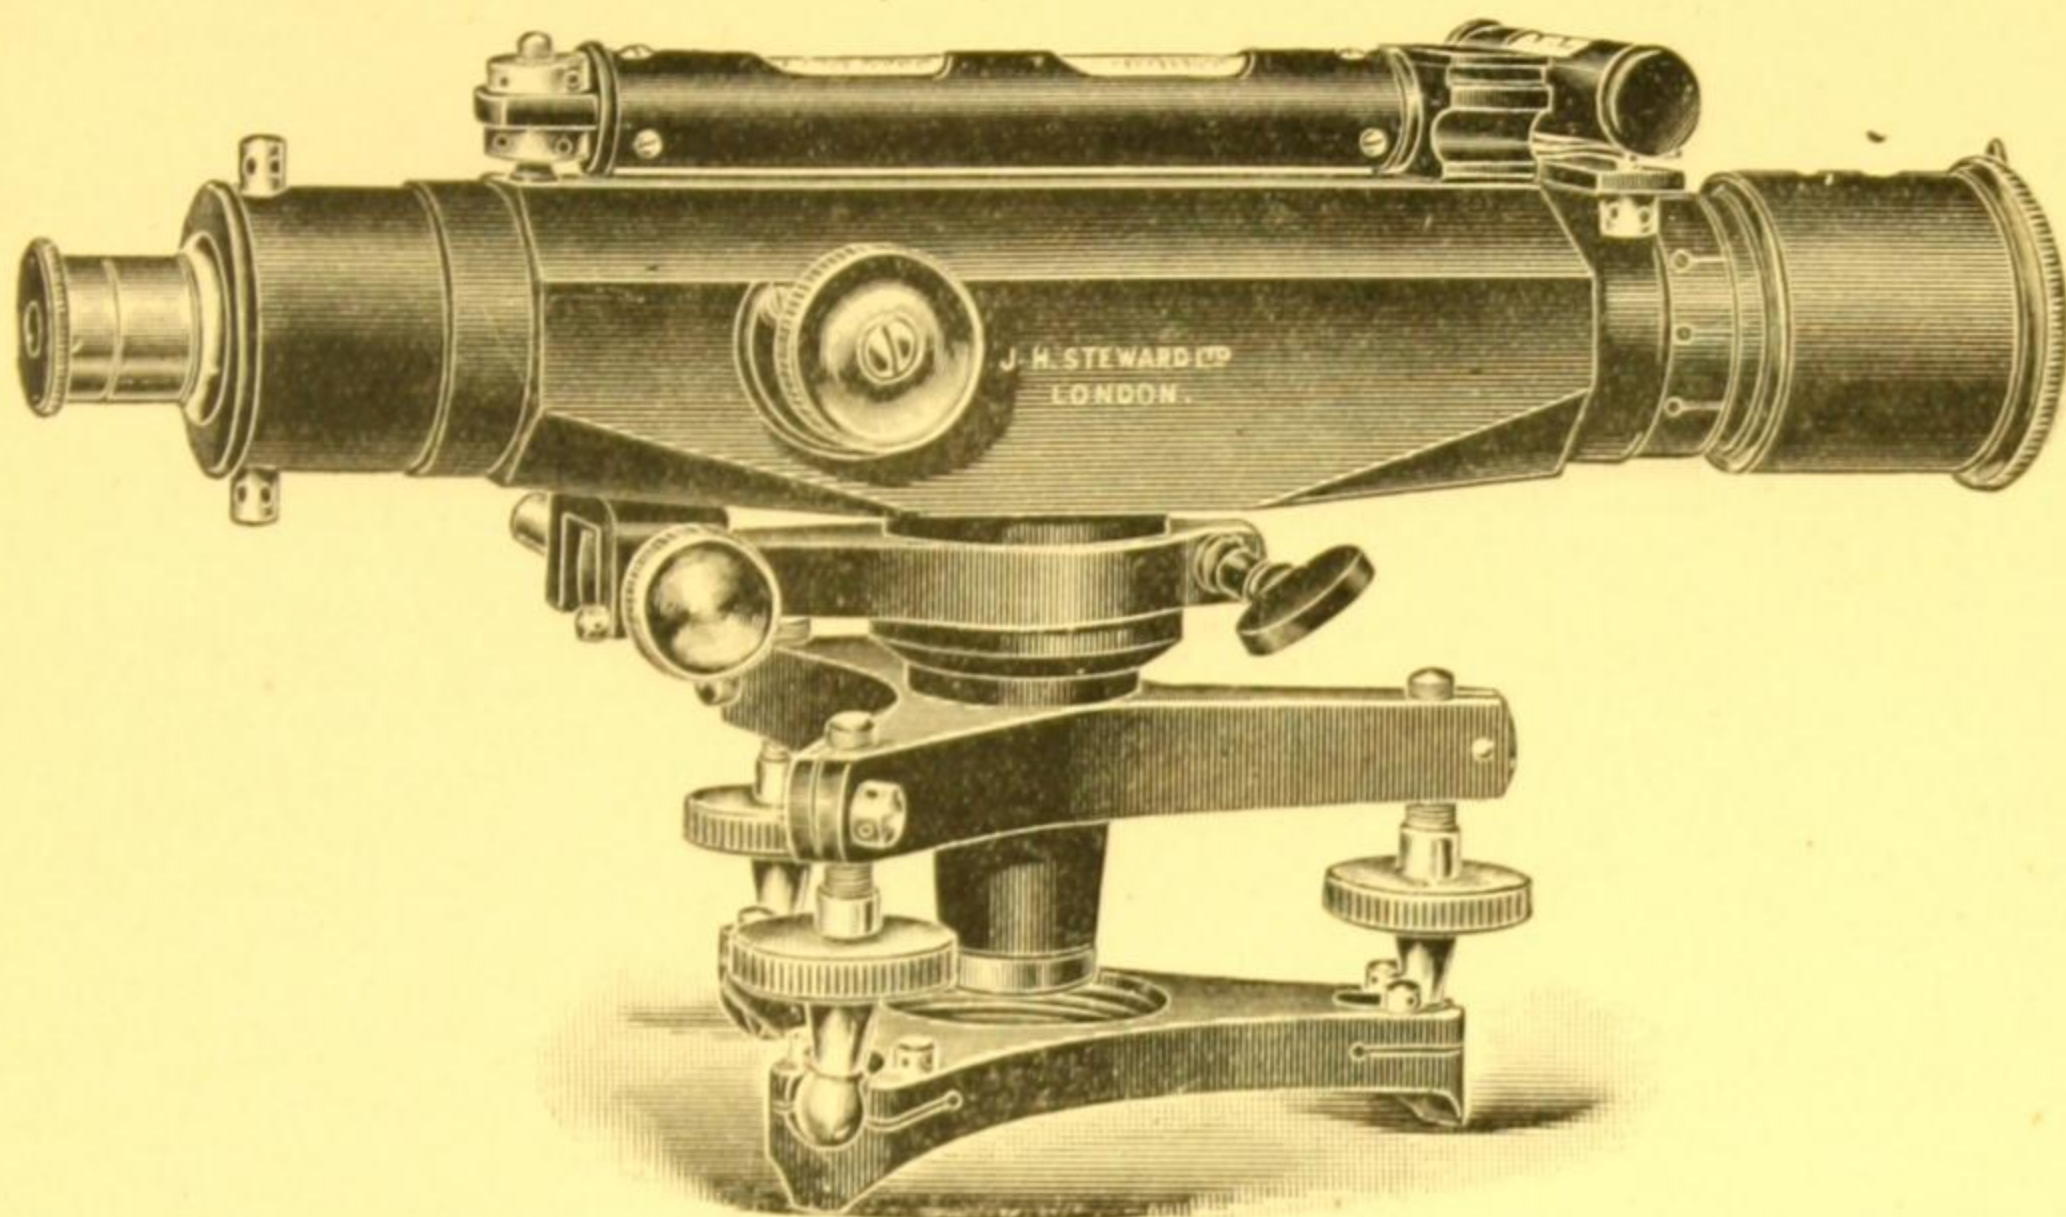

Fig. 12.
**"Engineers'" Dumpy Level** with telescope body and main centre in one piece giving great strength and rigidity. Very sensitive main spirit level and cross level. The telescope is of the "ordinary" type described on page 4, with extra strong rack and pinion focussing adjustment to the object glass; webbed diaphragm unless ordered otherwise. Tangent screw slow motion to main centre with clamp. 3-screw levelling adjustment embodied in the instrument with means of taking up any wear of the levelling screws. Three small feet cast on the trivet stage permit the level to be used on a wall or other support without its tripod. Solid round pattern mahogany tripod (SM 77). Mahogany box with hook fastening and lock. A compass if required can be attached to a small fitting on the telescope and is quoted separately. Fig. 12.